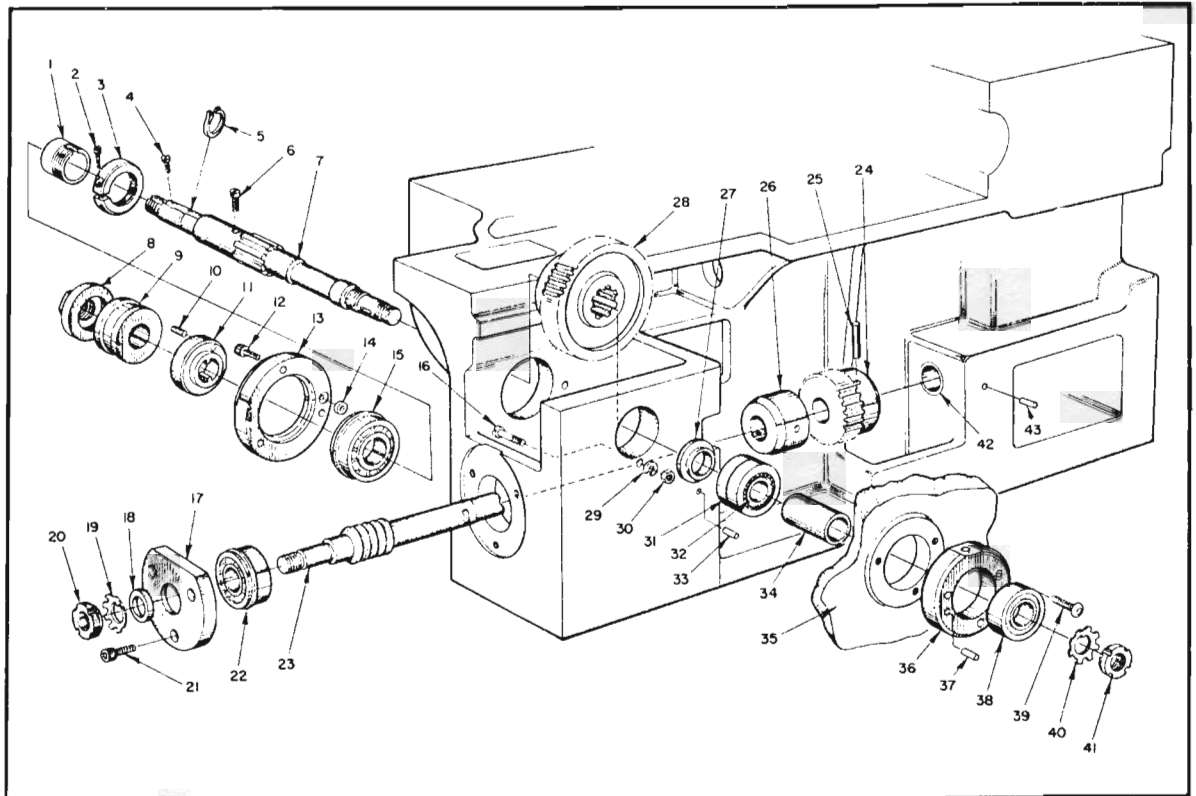

Figure 3-8
7. Use Figure 3-8. Remove (Items #8, #9) and lead cam.
10. Remove three (3) button head screws (Item #39) from lead cam shaft bearing retainer (Item #36).
15. Remove three (3) cap screws (Item #12) from lead cam shaft bearing retainer (Item #13), being careful not to lose the cork gasket (Item #14) in the bearing retainer.